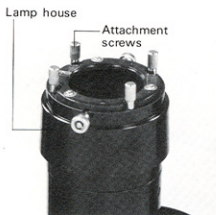

Fig. 57
- (b) Unscrew four knurled lamphouse attachment screws and pull the lamphouse up. (See Fig. 57)